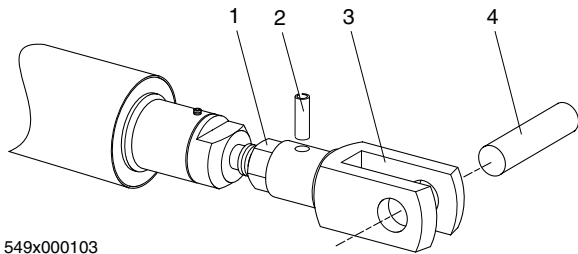

Fig.3 Securing the fork head when using the drive in areas where people might be endangered.
In areas where people might be endangered, the locking nut (1), see Fig. 3, must be tightened with 140 Nm and the fork head must be secured with a spiral pin (2) DIN 7344.